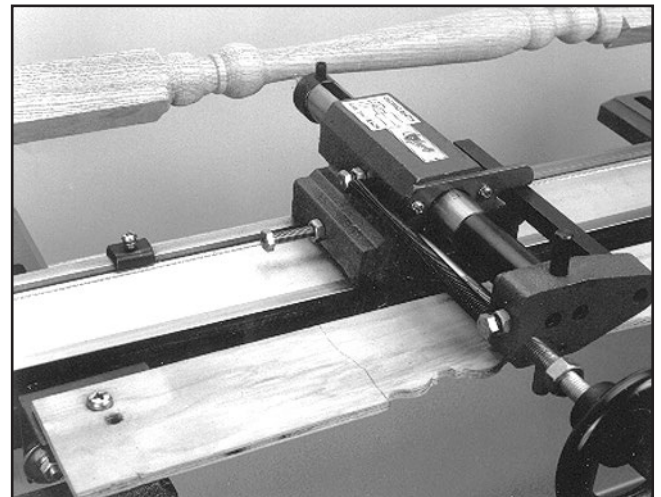

Figure 20. Shaping the copy spindle.
14. Continue removing stock until workpiece is complete (see **Figure 20**).